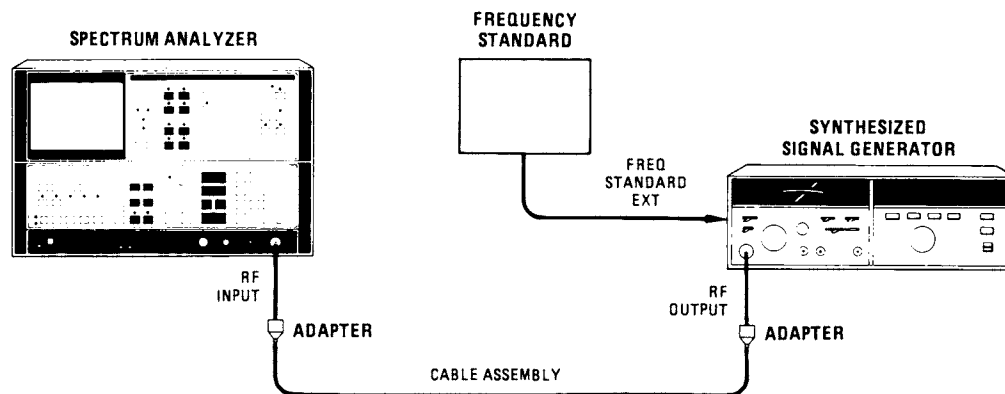

Figure 4-2. Center Frequency Test Setup
6. Connect equipment as shown in Figure 4-2.